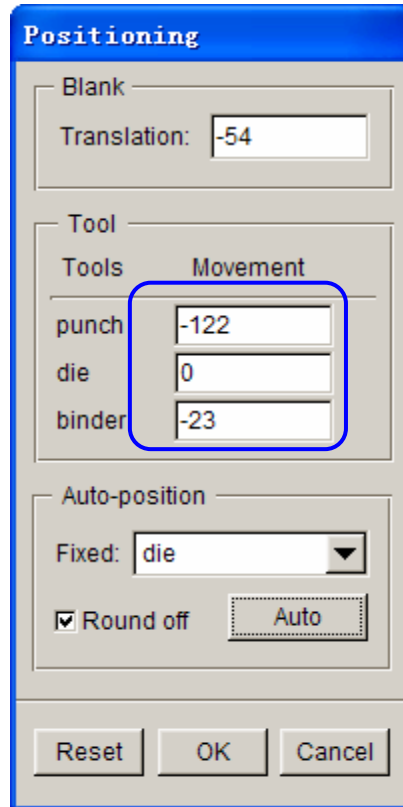

Figure 7.38 After tool auto positioning
3. Click **Auto** button to position all tools and blank automatically. See Figure 7.38.